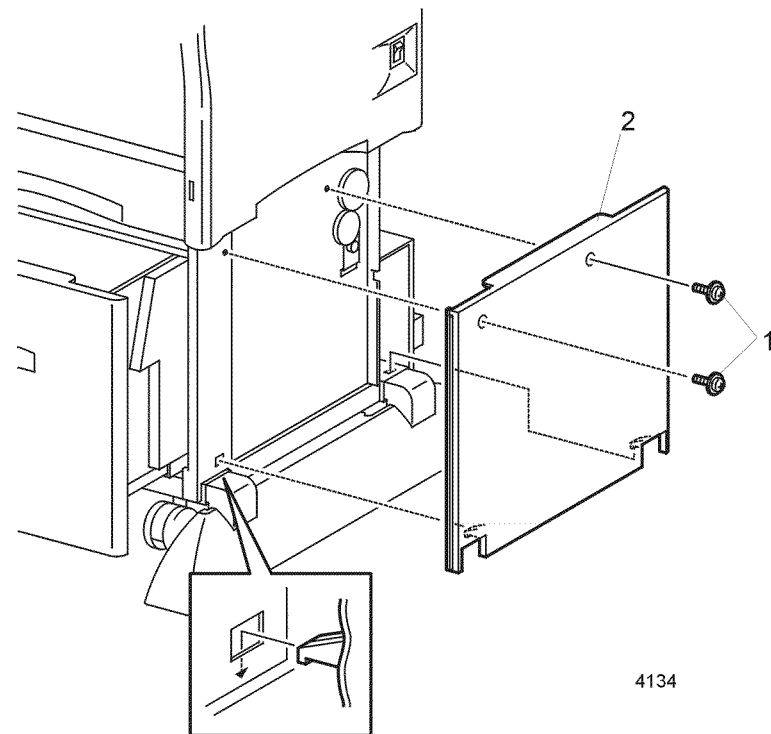

Figure 1 Right Side Cover
2. Pull the top of the cover out and up to remove (Figure 1).